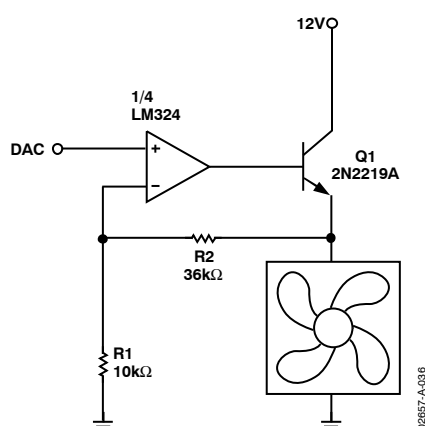
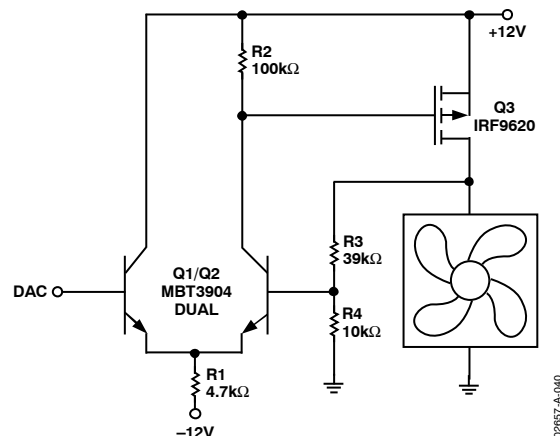

Figure 36. Fan Drive Circuit with Op Amp and Emitter-Follower
Figure 40. Discrete Fan Drive Circuit with P-Channel MOSFET, Dual Supply
Suitable fan drive circuits are shown in Figure 36 through Figure 40. When using any of these circuits, note the following:
- All of these circuits provide an output range from 0 V to almost +12 V, apart from Figure 36, which loses the base-emitter voltage drop of Q1 due to the emitter-follower configuration.